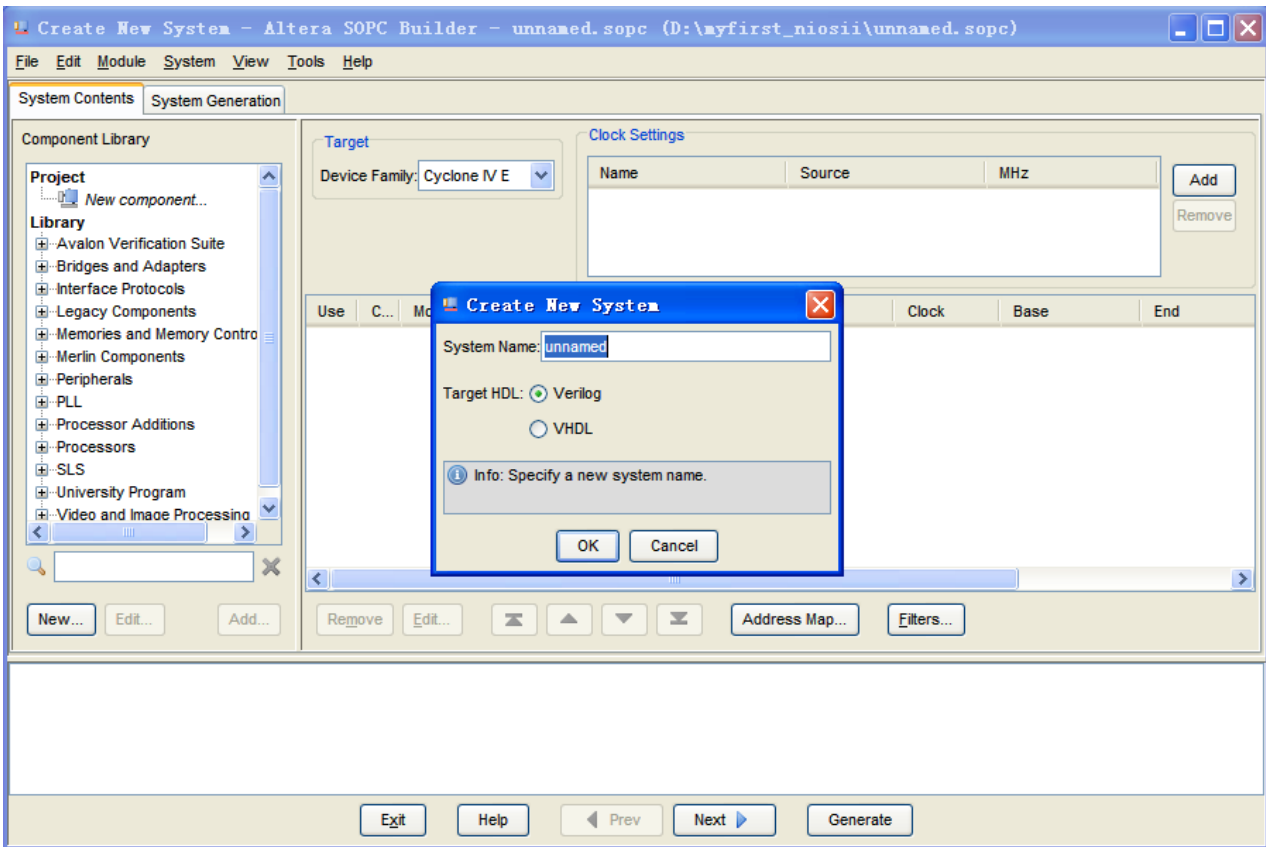
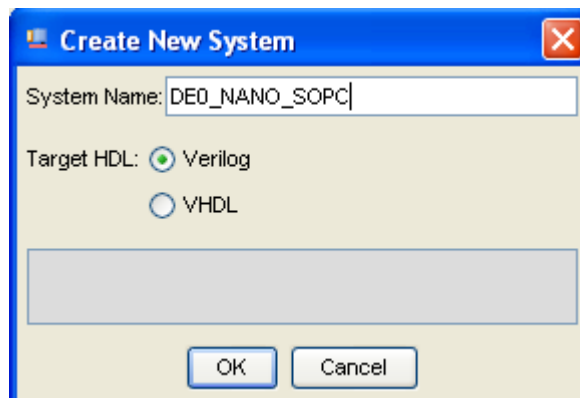
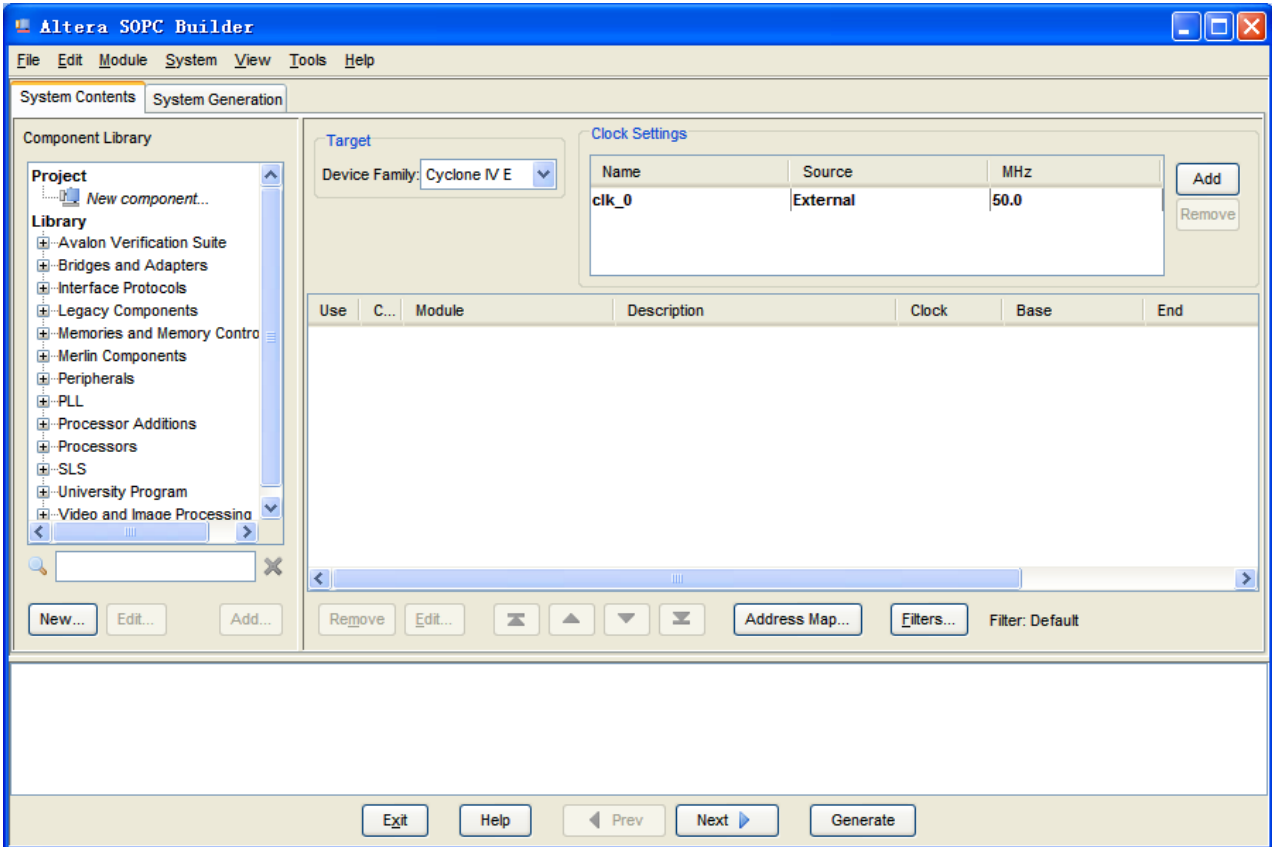

Figure 7-10 Create New SOPC System [0]
Figure 7-11 Create New System [1]
Figure 7-12 Create New System[2]
6. Rename System Name as shown in Figure 7-10 and Figure 7-11. Click **OK** and your will see a window as shown in Figure 7-12.